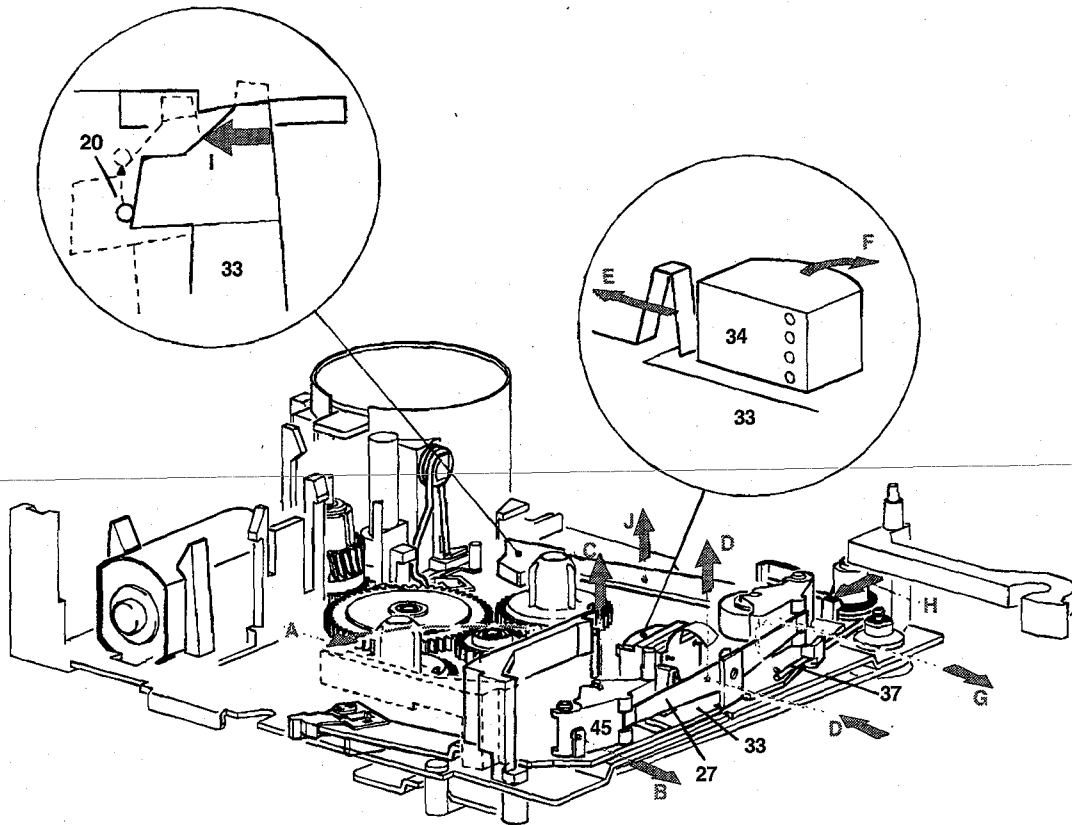

Fig. 3
- 2.3 Turn head support fixation lever acc. fig.3-A
- 2.4 Position pin of switching lever (20) to max. left point, see fig.3-detail I
- 2.5 Release plastic snapper (fig.3-H) and take out head support assembly
- 2.6 Press plastic fixation (fig.3-detail E,F) and take out magnetic head
- 2.7 Push pressure spring (27) acc. fig.3-D and move it out
- 2.8 Release plastic hooks (fig.3-B,C) to pull pinch rollers (45+68) out